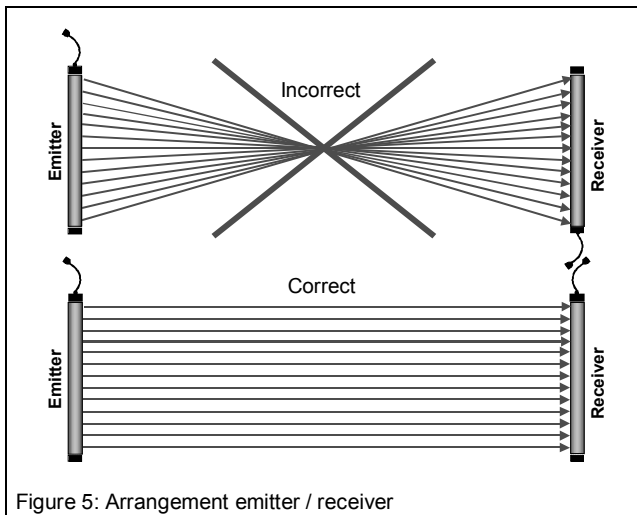

Figure 5: Arrangement emitter / receiver
- ☑ The emitter and receiver should not be rotated 180° when mounting. That means, the connection cable of the door edge **must** come out of the top (figure 5).